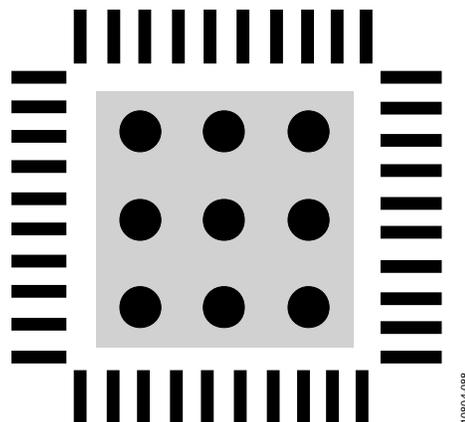

Figure 104. Exposed Pad Layout Example, Top View (Not to Scale)
- Vias should be placed to connect all layers of copper, allowing for efficient heat and energy conductivity. For an example, see Figure 104, which has nine vias arranged in a 3  $\times$  3 grid in the pad area.